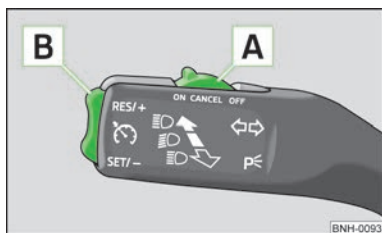

Fig. 68
- Turn the switch » Fig. 68 into the **ON** position.
- Press the rocker button » Fig. 68 on page 76 into the **RES** position.
- The stored speed can be **reduced** by pressing the rocker button » Fig. 68 on page 76 into the position **SET**.
The cruise control system is **temporarily switched off** by pressing the switch » Fig. 68 on page 76 into the spring-tensioned position **CANCEL** or by depressing the brake or clutch pedal.
- Turn the switch » Fig. 68 on page 76 into the **OFF** position.